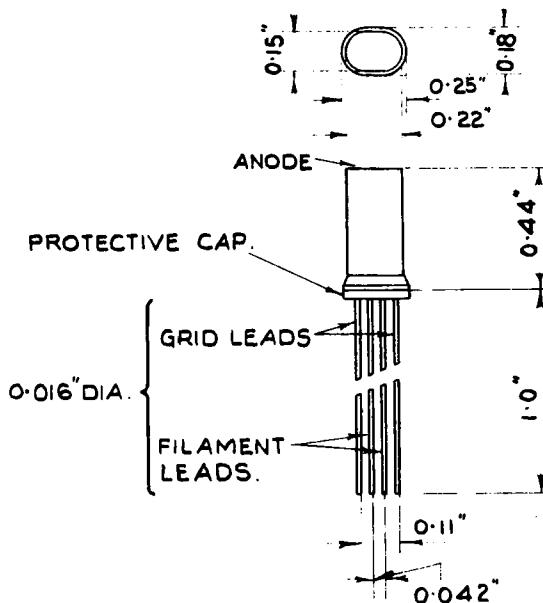

FIG.1. OUTLINE DRAWING.
Anode Voltage (V)	See drawing on page 6, Fig.1.